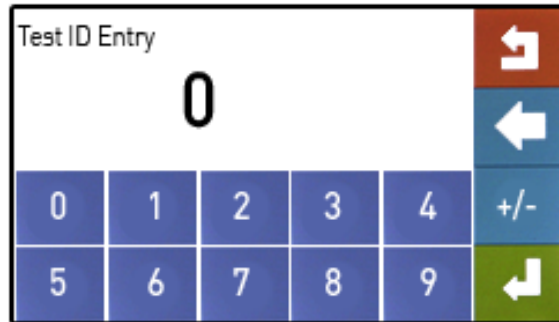

Figure 16 - Test ID Entry
- **Test ID Entry** (Figure 16). This screen gives you the ability to enter an identification number for the test data that you are saving. When finished, press  to continue.